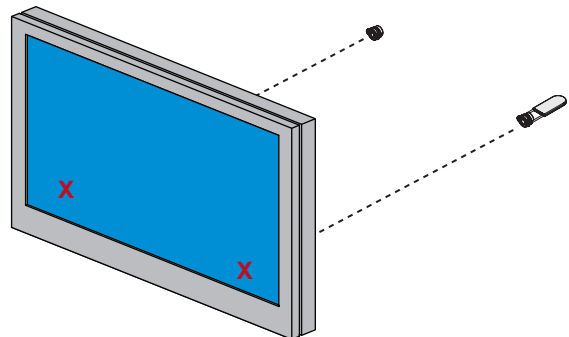

Figure 5
- 4 Attach the two (2) loose bolt spindles to the bottom two (2) mounting locations on the back of the flat-panel (Figure 5).